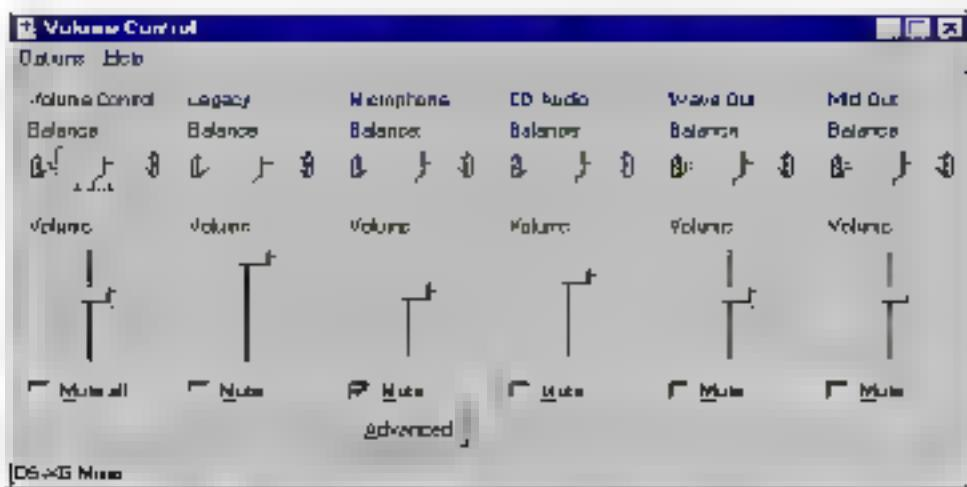

Figure 3-2 The Volume Control window
4) To access Advanced control of the Microphone device, first click on Mute and then click the Advanced button as shown in Figure 3-2 below.